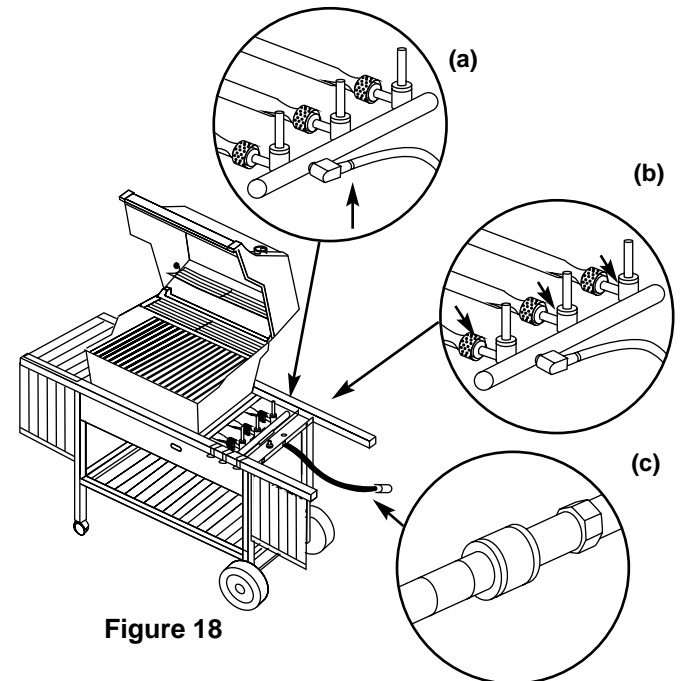

Figure 18
a) Hose to manifold connection. Figure 18 (a).
b) Valves to manifold connections. Figure 18 (b).
c) Hose to quick disconnect connection. Figure 18 (c).